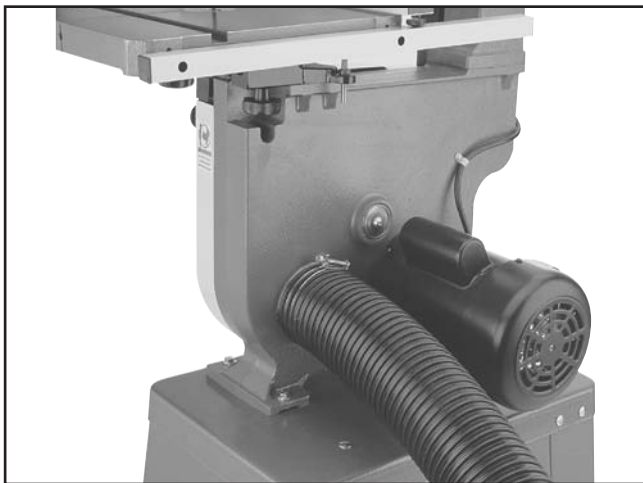

Figure 25. 4" dust hose attached to dust port.
1. Fit the dust hose over the dust port, as shown in **Figure 25**, and secure it in place with a hose clamp.